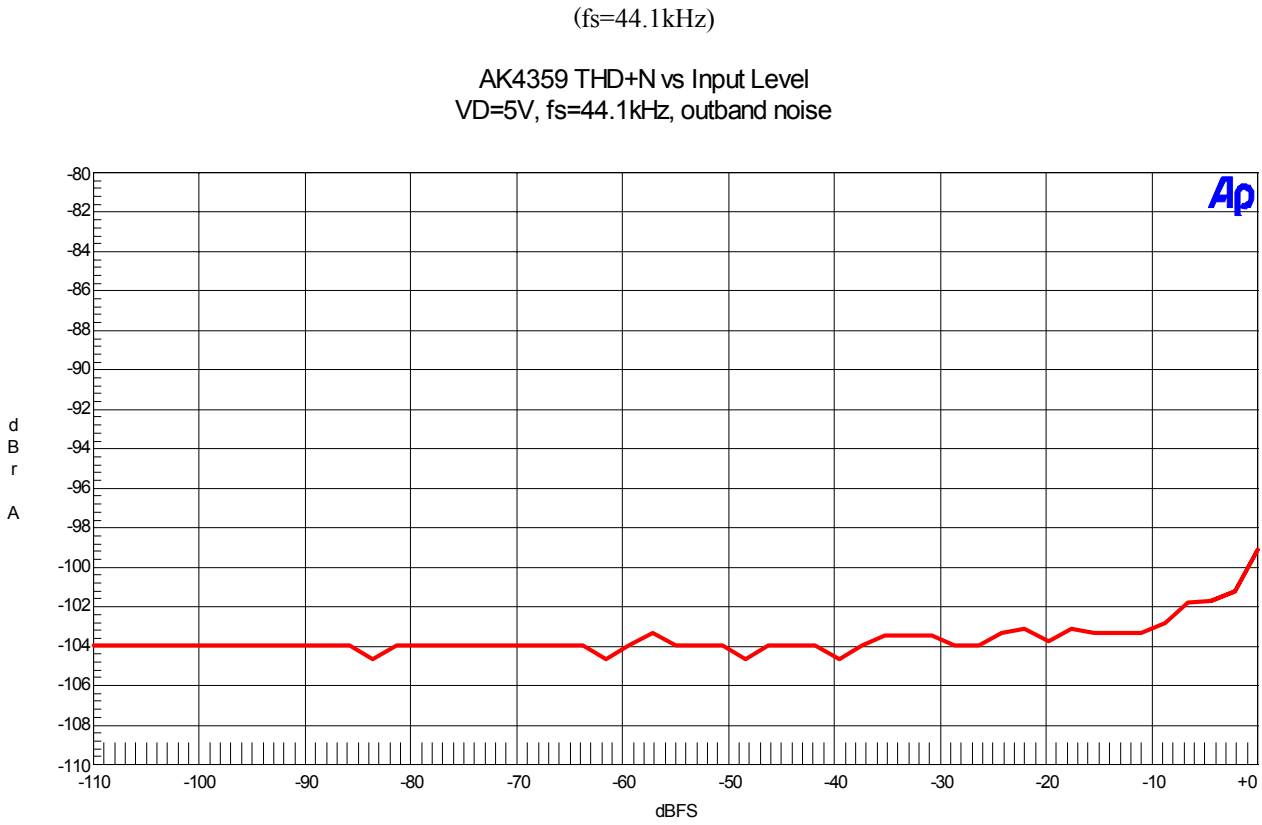

Figure 8. THD+N vs Input Level (fin=1kHz)
- Figure 8. THD+N vs Input Level (fin=1kHz)